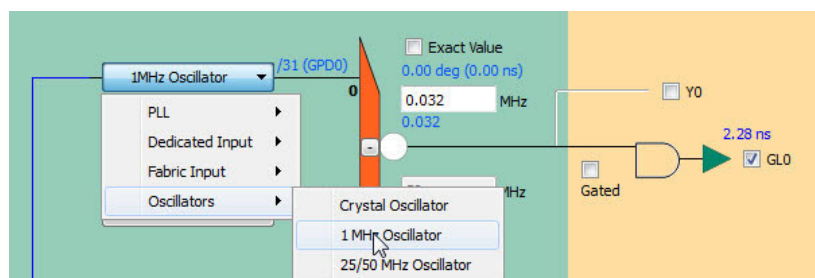

Figure 2-4 • Bypassing PLL as the Reference Clock Source
3. In the Advanced tab, de-deselect PLL (to bypass the PLL) and select any one of the following as the clock source (Figure 2-4):